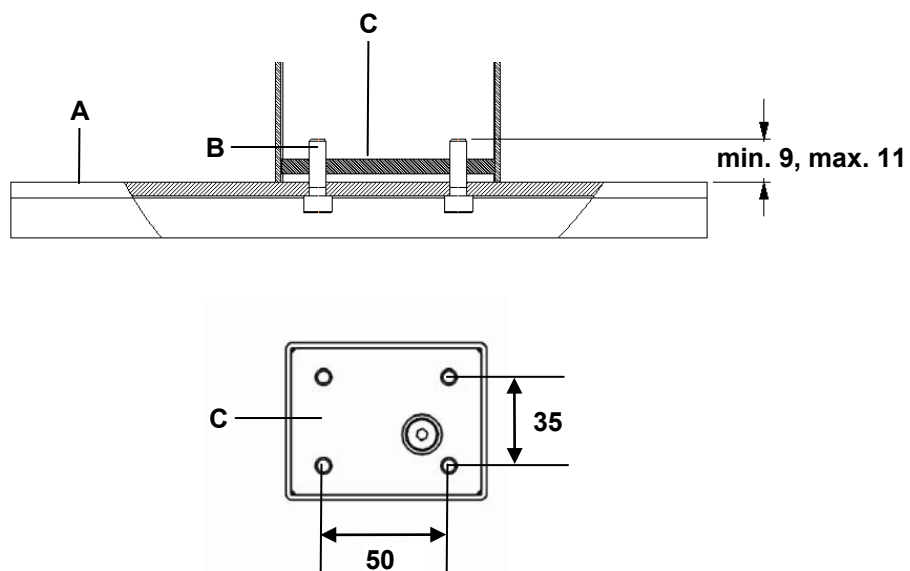
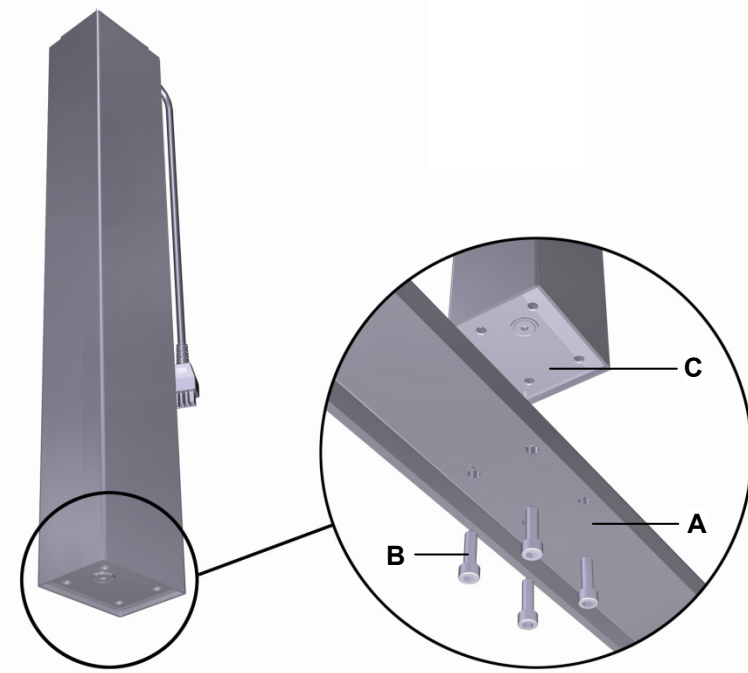

Figure 12 Mounting the table base (dimensions in mm)
Figure 13 Mounting the table base
- Use M6 screws (grade 8.8) of suitable length so that the screw-in depth is between 9 and 11 mm, as shown in Figure 12 (screw length = thickness of the base plate + min. 9 to max. 11 mm). The tightening torque must not exceed 10 Nm.
- 1 Use four screws to attach the table base to the foot end of the ID21 lifting column, as shown in Figure 13 (maximum tightening torque is 10 Nm). The mounting dimensions are shown in Figure 12.